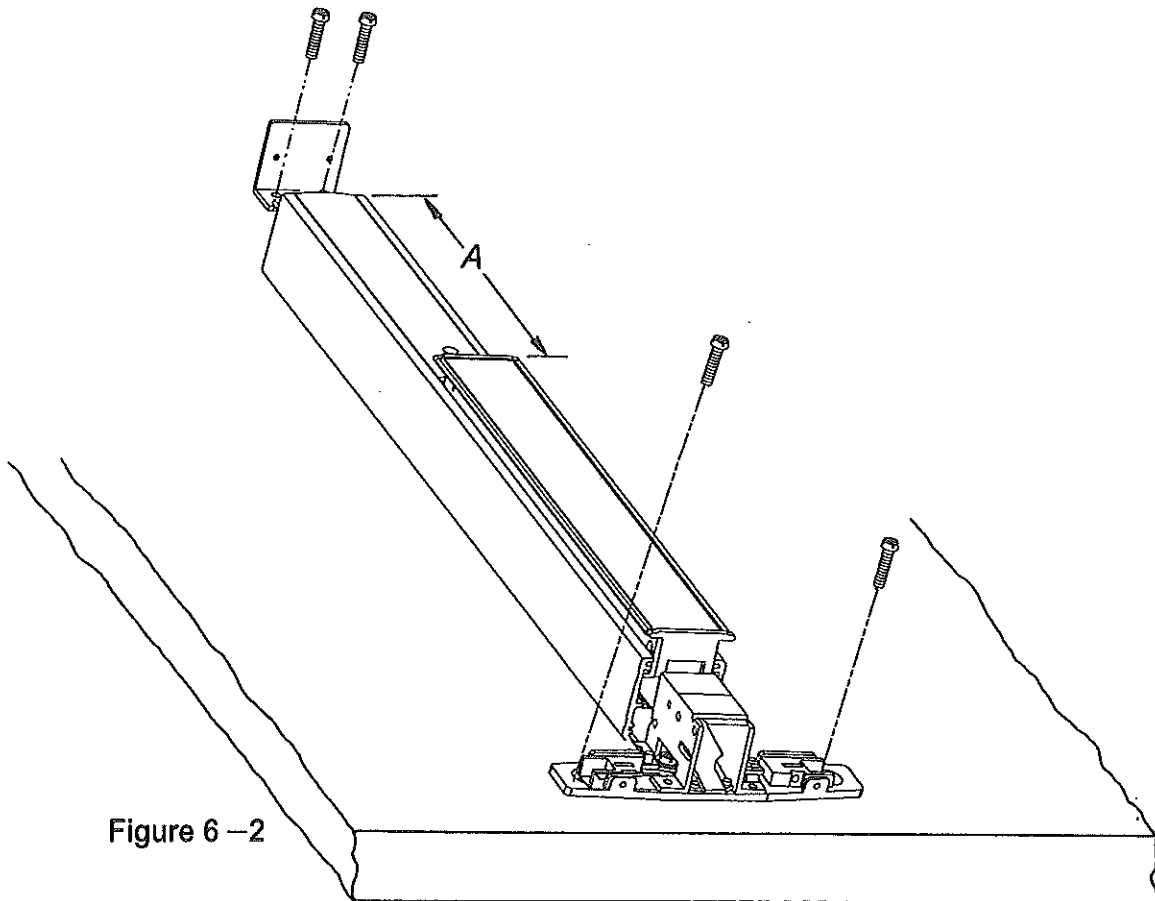

Figure 6-2
- 5. Install end cap bracket on device then screw to door. (See Figure 6-2.)